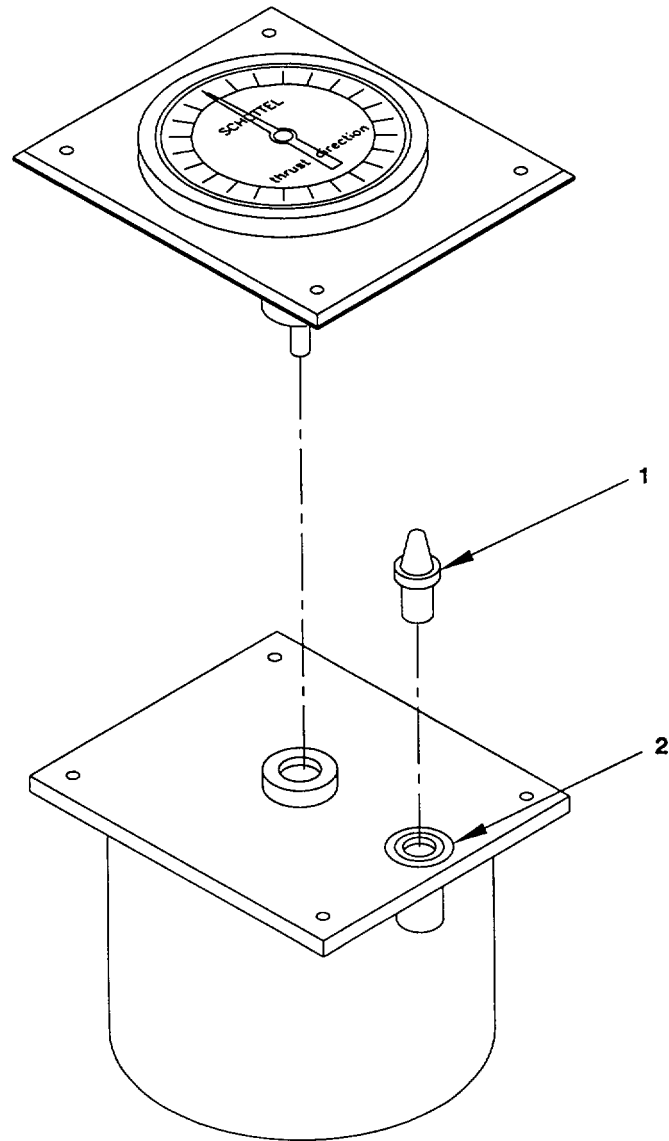

Figure 2-120. Bulb, Thrust Direction Indicating Device, Middle Control Panel "A1", Remove/Install.
- a. *Remove.* (figure 2-120)
- b. *Install.* (figure 2-120)